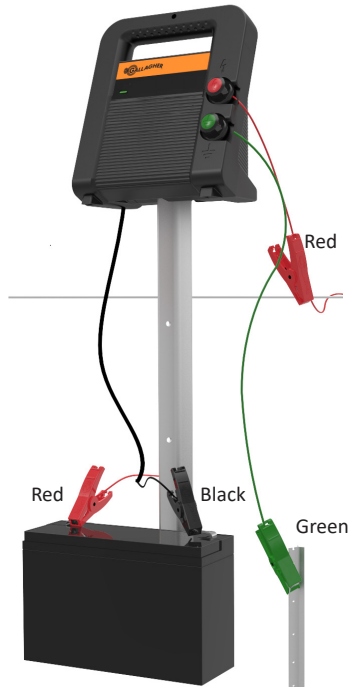

Figure 7
- Connect energizer earth (green) terminal to the earth stake installed at least 3 ft (1 m) into the ground (Figure 7).